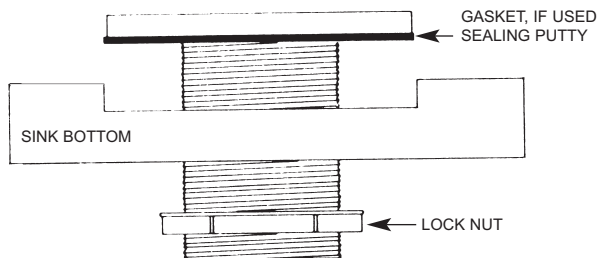

FIG. 20
2. Apply concentric rings of 1/2" wide sealing putty to the bottom face of the sink outlet. These rings should be tight together, but not necessarily overlapping. (It is easier to apply sealing putty to the outlet, but it may also be applied to the rabbeted cutout. The result will be the same.) Two concentric rings are required for 1-1/2" drain outlet (16" to 18" of sealing putty). If a gasket is provided, for outlets such as Teflon or plastic, place the gasket in place on the outlet before applying the sealing putty (see Figure 20).